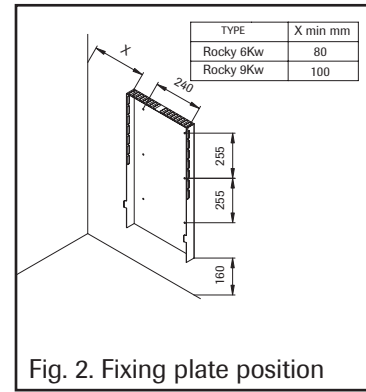

Fig. 2. Fixing plate position
- Fasten the fixing plate for the stove on the wall as shown in Fig. 2. (6 screws \varnothing 4,8 x 25)